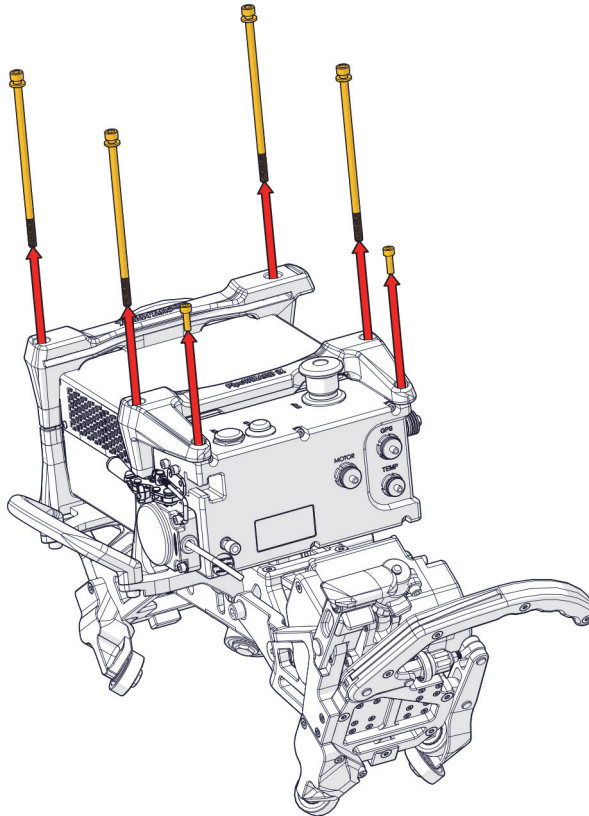

Figure 2-1 Remove 6 mounting screws
1. Remove the 6 mounting screws (4 screws are 6mm, 2 screws are 5mm) from the acquisition unit (see Figure 2-1 on page 83).